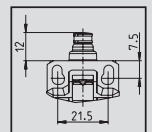

Fig. 1
- Two M5 screws for safety applications without additional fixing element (Fig. 1)